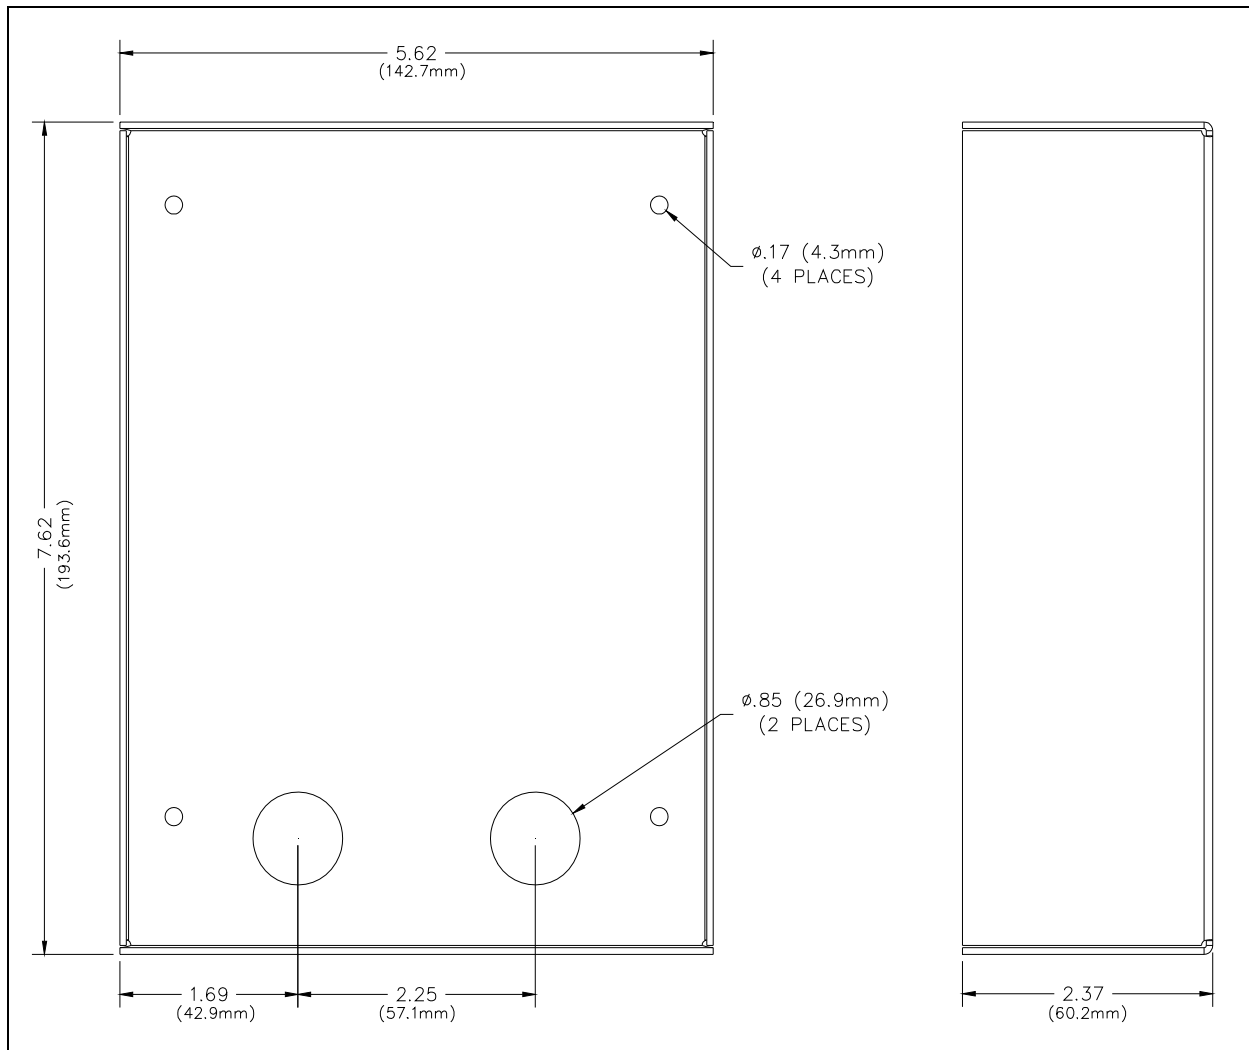
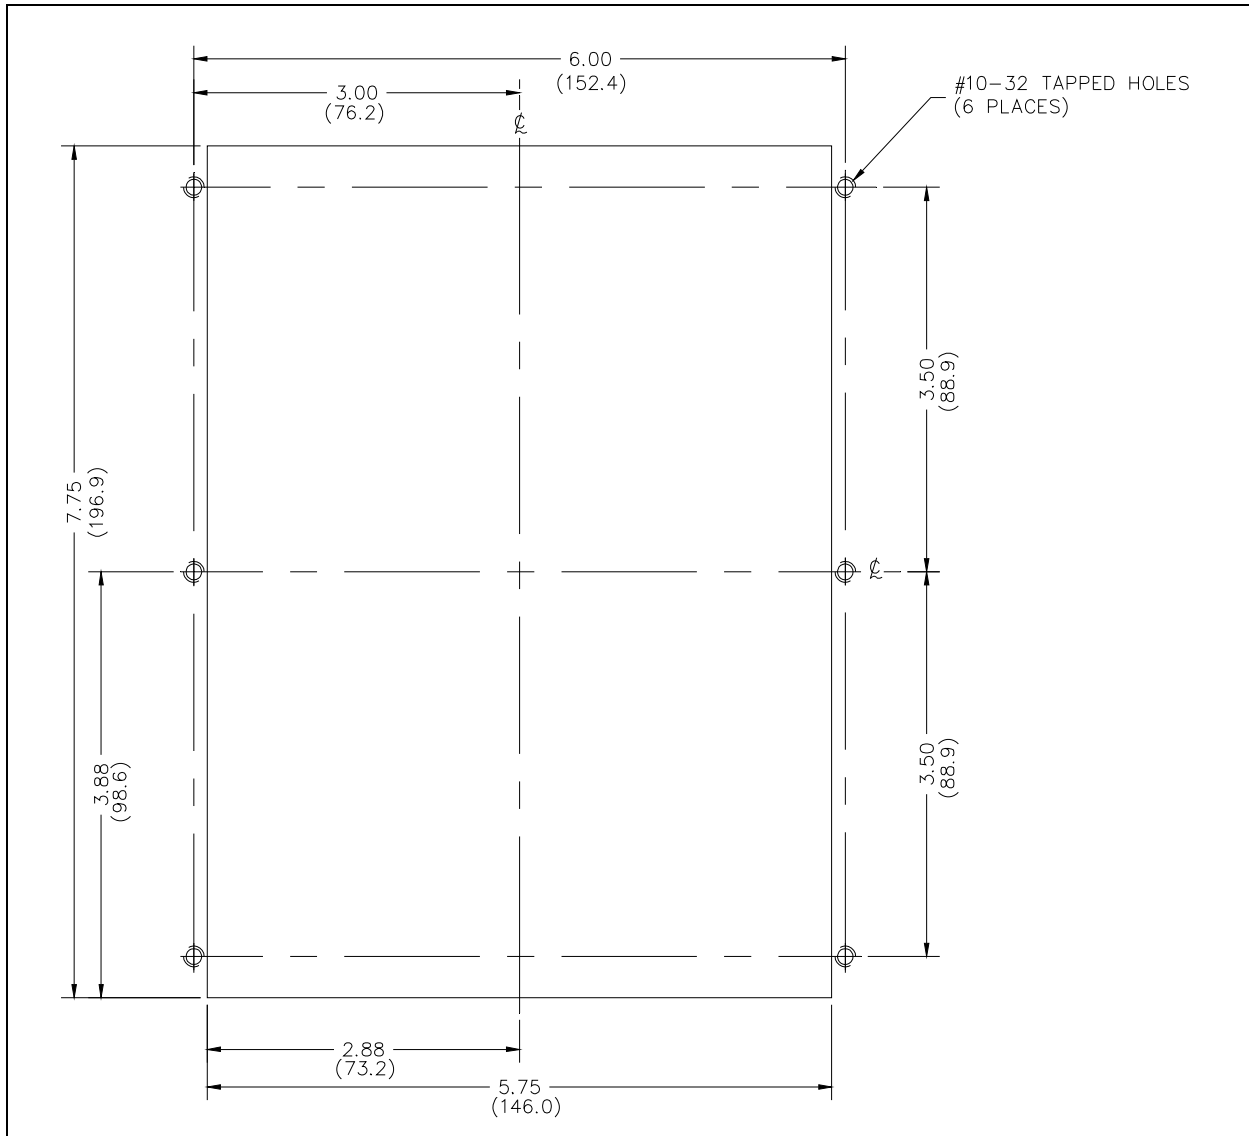

Figure 12. Model 397-001ADFS Back Box
Figure 13. Cutout for Model 397-001ADFS
3. Connect the telephone's modular plug into a USOC RJ11 or CA11A (Canada) modular connector or (if applicable) the telephone line suppressor. An inline coupler is provided for use, if necessary. Refer to Figure 12 and Figure 13 for mounting details and Figure 15 for component locations.